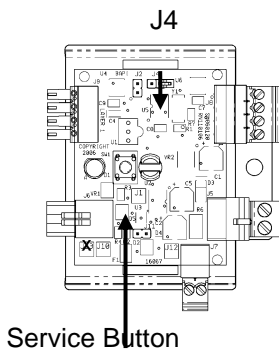

Figure 6: Service Button & Jumper Positions
4. Place the previously trained **Temperature** or **Setpoint** output module's jumper J4 in the Override ON position. (See Figures 6 and 7) Press and hold down the **Service Button** on the output module (Figure 6). Then, press and release the **OVERRIDE** button on the transmitter. When the output module has received a valid data packet from the transmitter, the output module's red LED will light and remain lit as long as you hold down the output module's service button. Release the service button on the output module and the output module's LED will go out. During normal operation the output module's LED will flash indicating data reception approximately once every 10 to 20 seconds in time with the transmitter trained to it. The output module is now receiving data from the transmitter. Remove the jumper on J4 and store it on the right pin. (Figure 7) Replace the Output Module's cover.